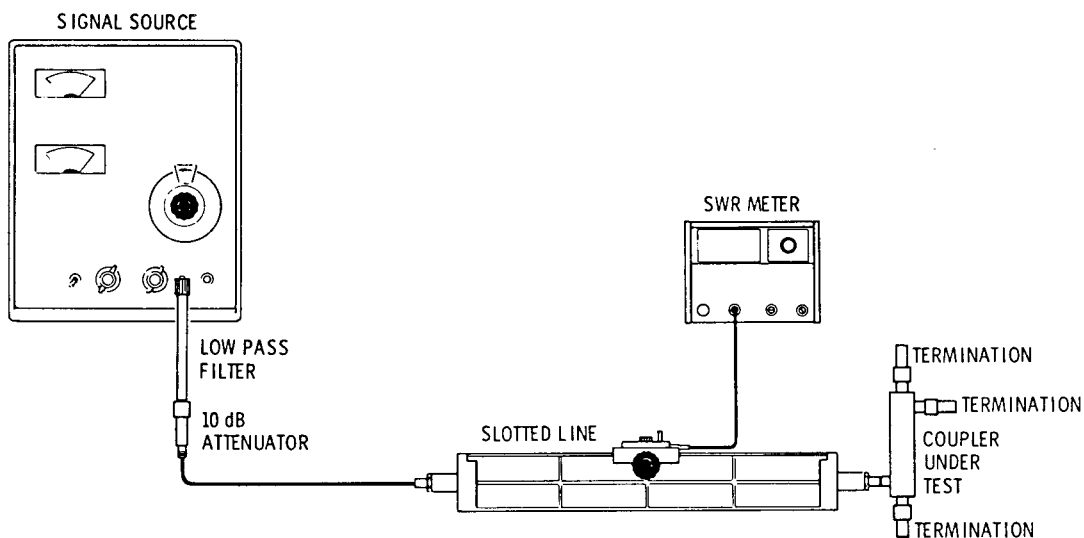

Figure 11 Fixed-Frequency Auxiliary-Arm SWR Test Setup
Description Refer to Figure 11 for test setup and for test equipment.
- Terminations (3)
1. Connect equipment as shown in Figure 11.